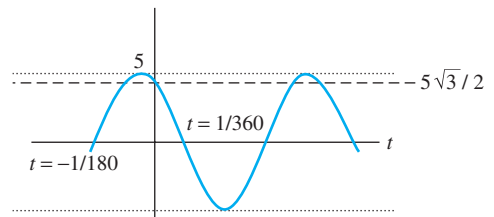

FIGURE 6.6 Figure for Example 6.3, part (c).
- c. $v(t)$ is sketched in Figure 6.6. Note that the point that the signal crosses the x -axis is the point at which the voltage is zero. Finding these points helps to sketch the sinusoid.
This equation can be used to find the zero (x -axis) crossing points. For example, for $k = -1$, $t = -1/180$ as shown in the figure. Note that $\pi = 180^\circ$, which can be used to simplify the calculations. In addition, for $k = 0$, $t = 1/360$. The cross section with the y -axis also helps to sketch Figure 6.6. This point occurs when time is set $t = 0$. Note that $\cos 30^\circ = \sqrt{3}/2$; thus, at this point, the amplitude is $5\sqrt{3}/2$, as shown in Figure 6.6 using a dashed line.